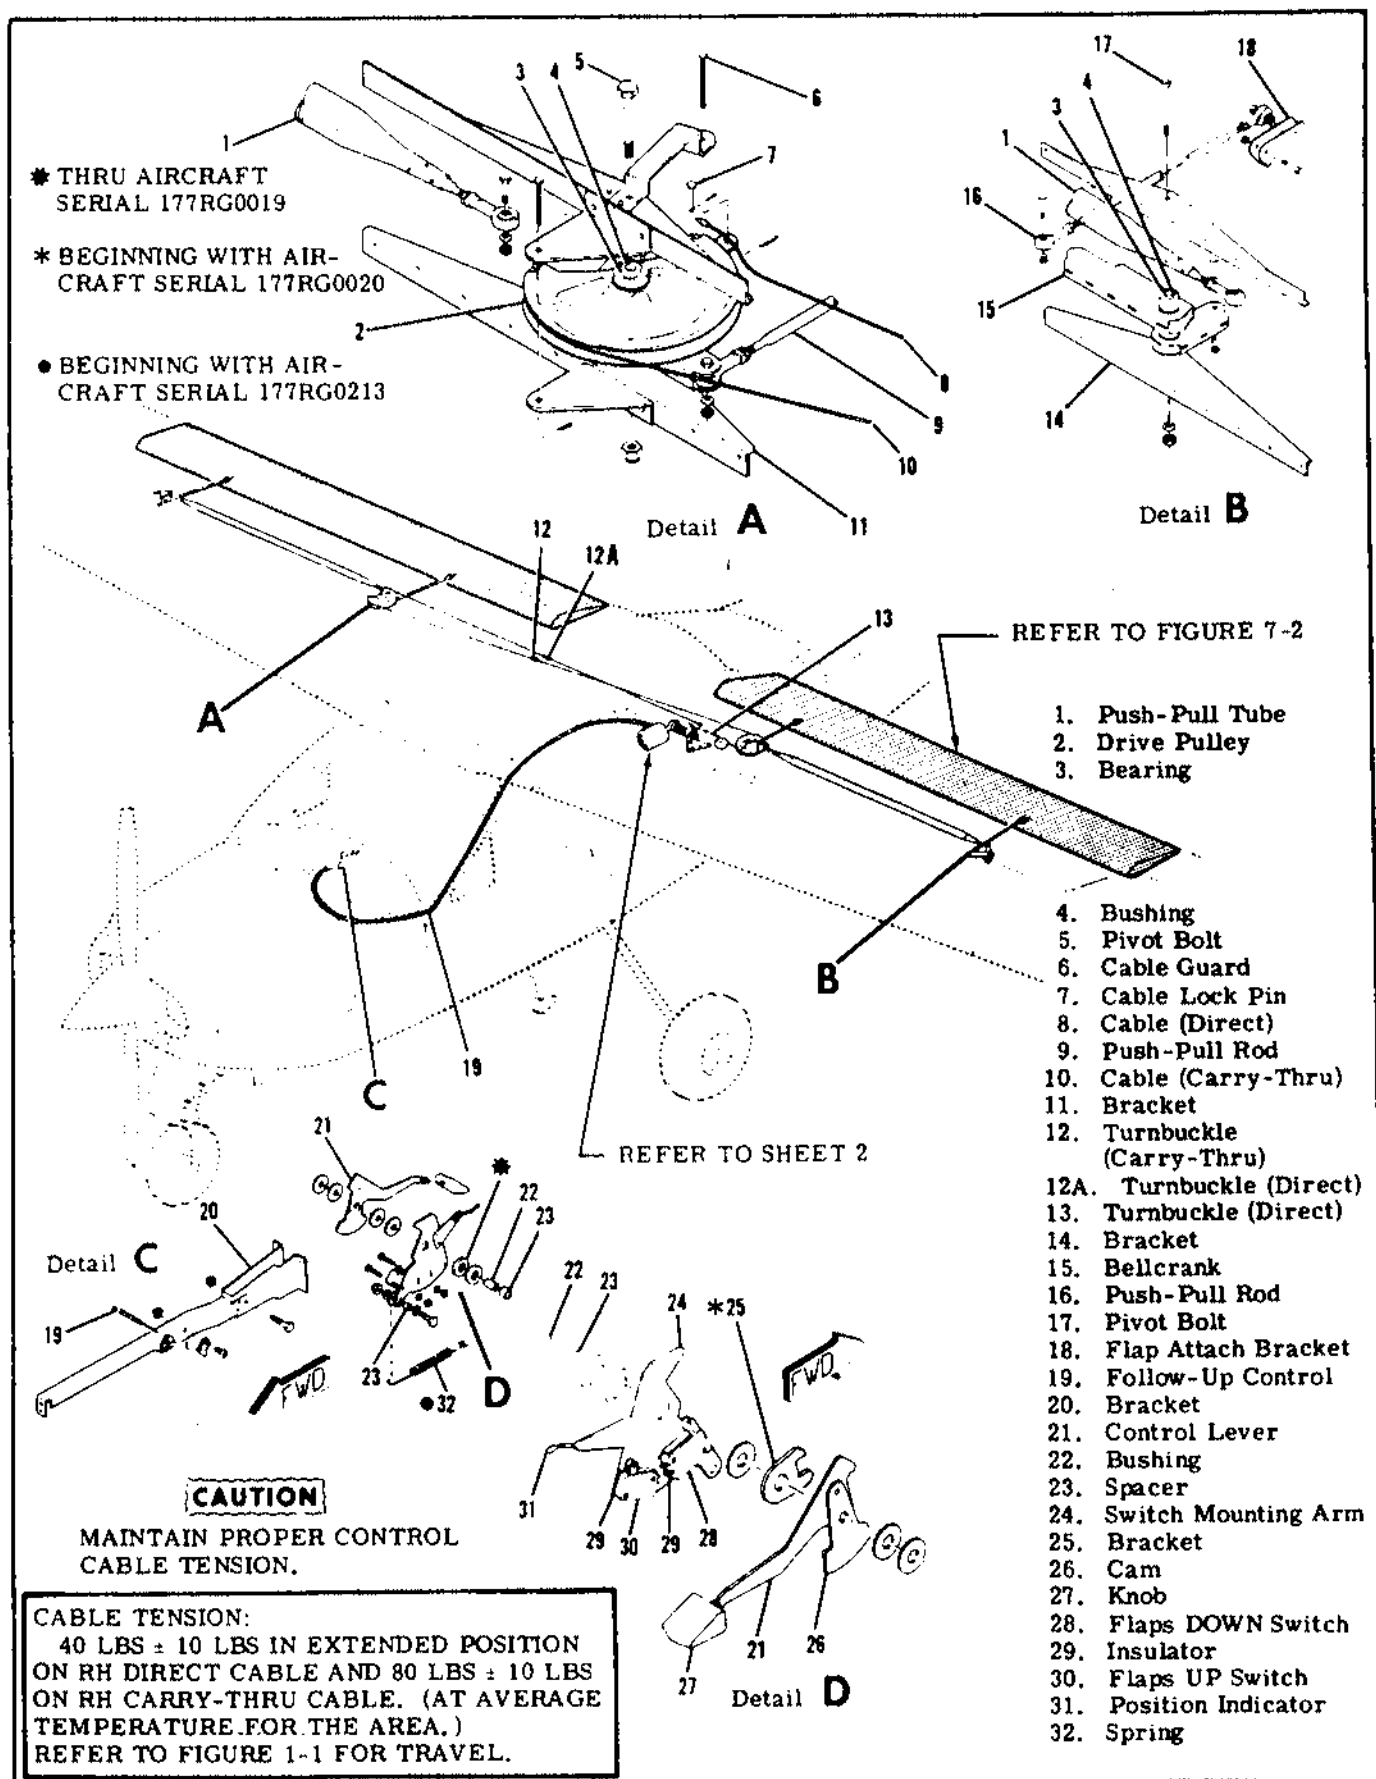

Figure 7-1. Flap Control System
7-1. WING FLAP CONTROL SYSTEM. (Refer to figure 7-1.)
- (Refer to figure 7-1.) Remove headliner access cover, remove safety wire and relieve cable tension at turnbuckles (12 and 12A).
7-9. REMOVAL AND INSTALLATION. (Refer to figure 7-1.)
7-11. REMOVAL AND INSTALLATION. (Refer to figure 7-1.)
7-14. REMOVAL AND INSTALLATION. (Refer to figure 7-1.)
7-20. REMOVAL AND INSTALLATION. (Refer to figure 7-1.)
2. (Refer to figure 7-1.) Remove headliner access cover, remove safety wire, relieve cable tension and disconnect turnbuckles (12 and 12A).
3. Disconnect push-pull rods (9) at both drive pulleys (2).
4. Disconnect push-pull rods (16) at both bellcranks (15).
13. Run flaps DOWN and adjust DOWN-LIMIT switch (18) to operate and shut-off motor at the 30°+2°-0° position.
14. (Refer to figure 7-1.) Operate control lever (21) and run flaps to the full UP position.
15. Disconnect follow-up control (19) at switch mounting arm (24).
16. Without moving the control lever (21), move arm (24) until cam (26) is centered between switches (28 and 30). Ensure switches are centered in their